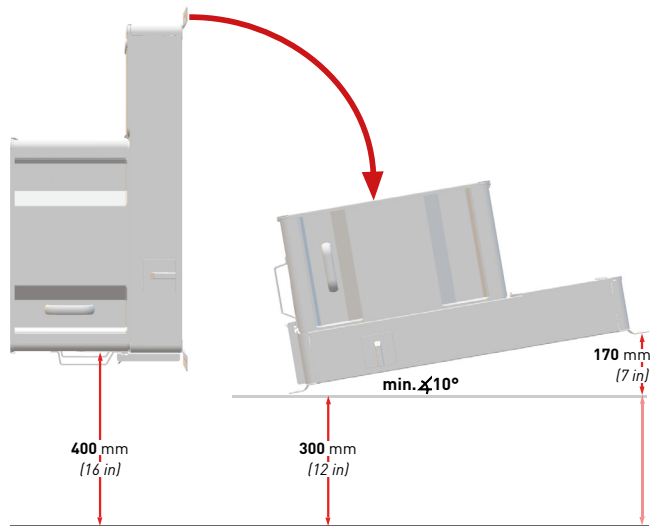

Fig. 8: Vertical and horizontal installation (decentral)
- a) Maintain a distance of at least 300 mm from the floor in the connection area (see Figure 8/9).